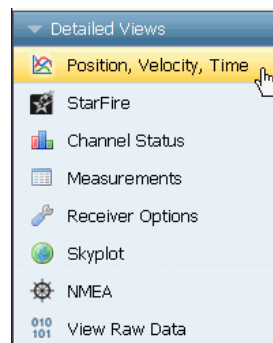
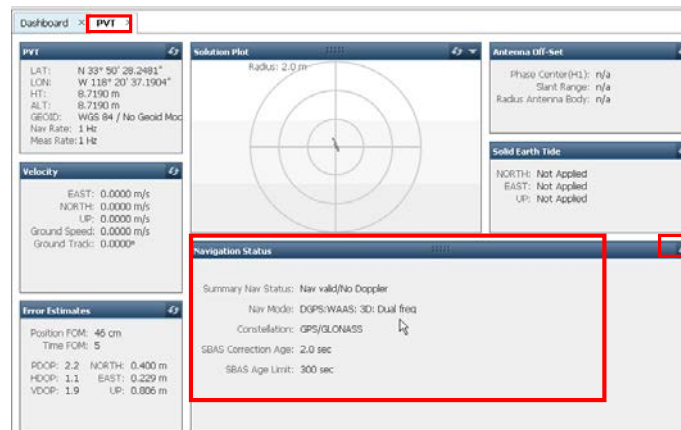
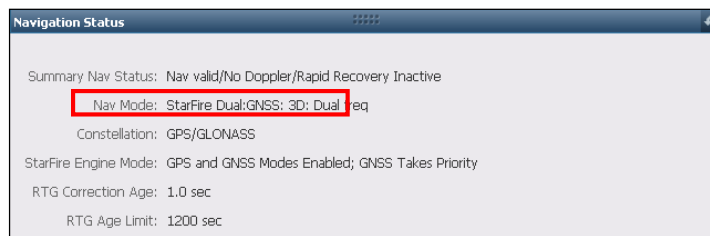

Figure 30: Position, Velocity, Time Menu Item
Figure 31: PVT Tab/Navigation Status Window
Figure 37: Nav Mode: StarFire Dual GNSS
68. To confirm a valid position solution on the *PVT* tab/*Navigation Status* window, first click *Position, Velocity, Time* (see Figure 30) on the *Detailed Views* menu to open the *PVT* tab (see Figure 31 ).
- Click  (refresh) on the *Navigation Status* window to ensure that the current position solution is displayed (see Figure 31).
79. Click *Position, Velocity & Time* on the *Detailed Views* menu (see Figure 30) to determine if the receiver is navigating in *StarFire* mode. The *PVT* tab opens (see Figure 37).
- ☐ The Nav Mode: *StarFire Dual:GNSS: 3D: Dual freq* in Figure 37 indicates that the receiver is navigating in StarFire dual frequency with a 3D position fix, which is very accurate.